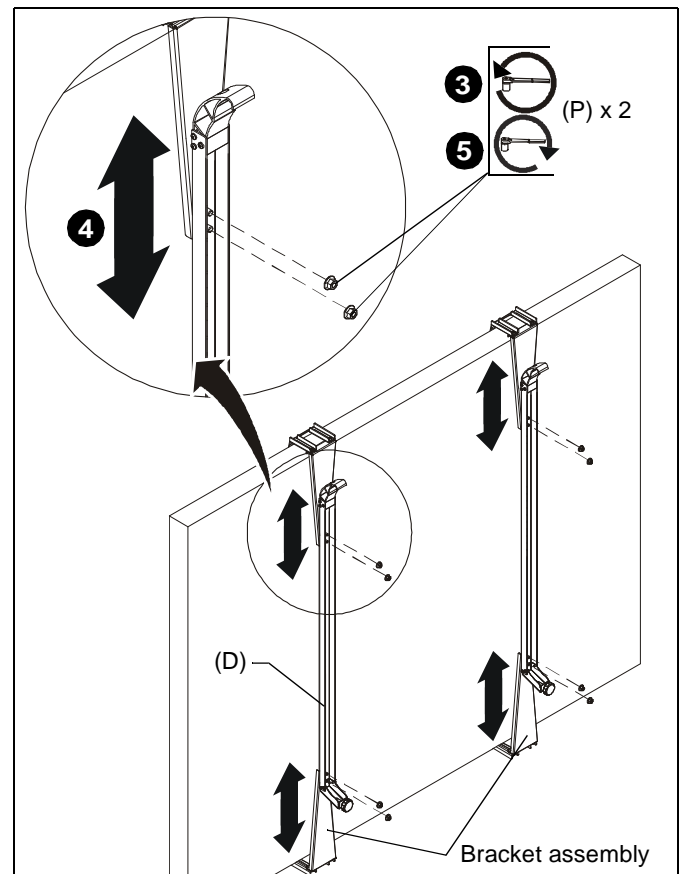

Figure 11
3. Loosen two 5/16" hex nuts with flange (P) on back of each bracket assembly. (See Figure 11)
4. Adjust bracket assemblies up or down on upright assemblies (D), as required. (See Figure 11)
5. Tighten two 5/16" hex nuts with flange (P) on each bracket assembly (D). (See Figure 11)